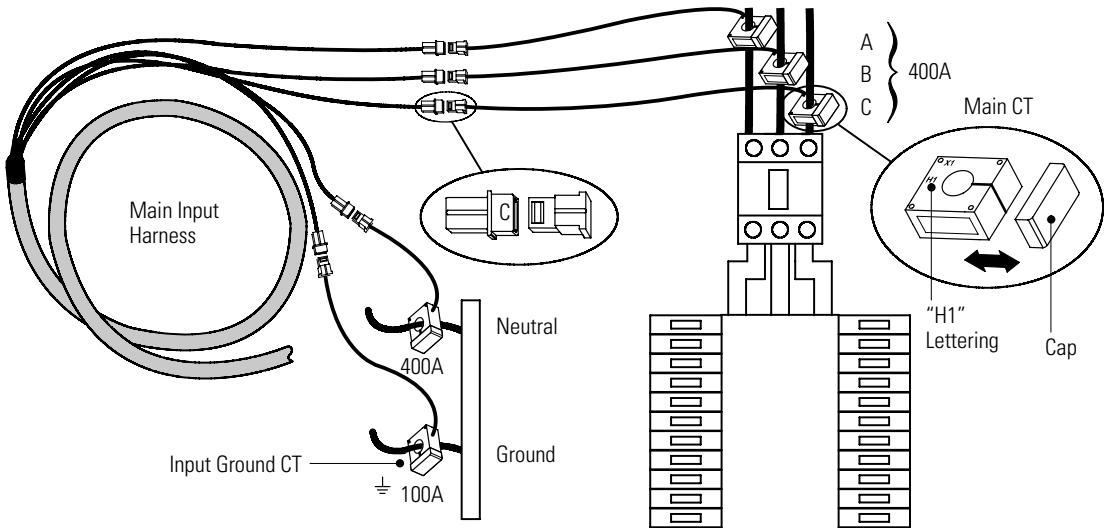

Figure 8. Main Input Harness Connections
5. Main input monitoring option only. Connect the main input harness to the breaker panel (see Figure 8):